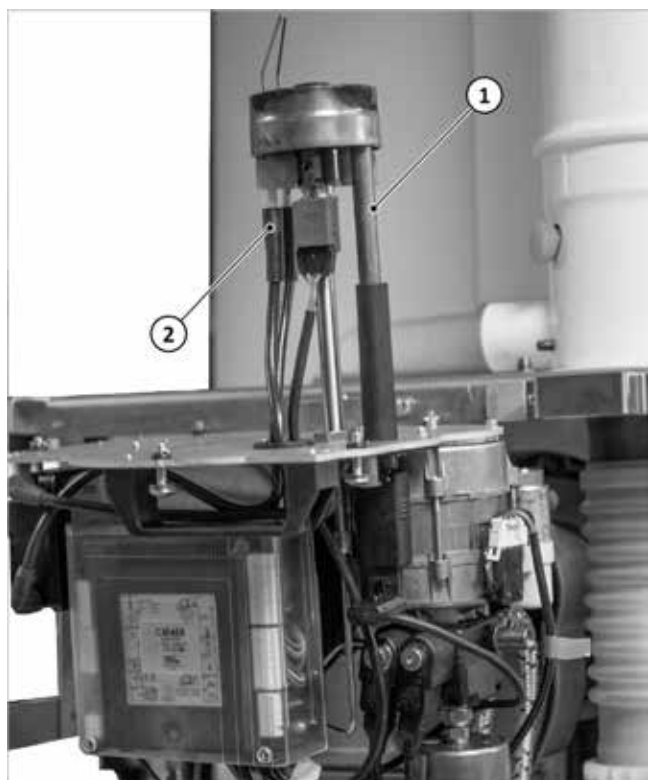

Fig. 119: Attaching the burner to the console
1. Remove the viewing sleeve; see → fig. 119 (1).